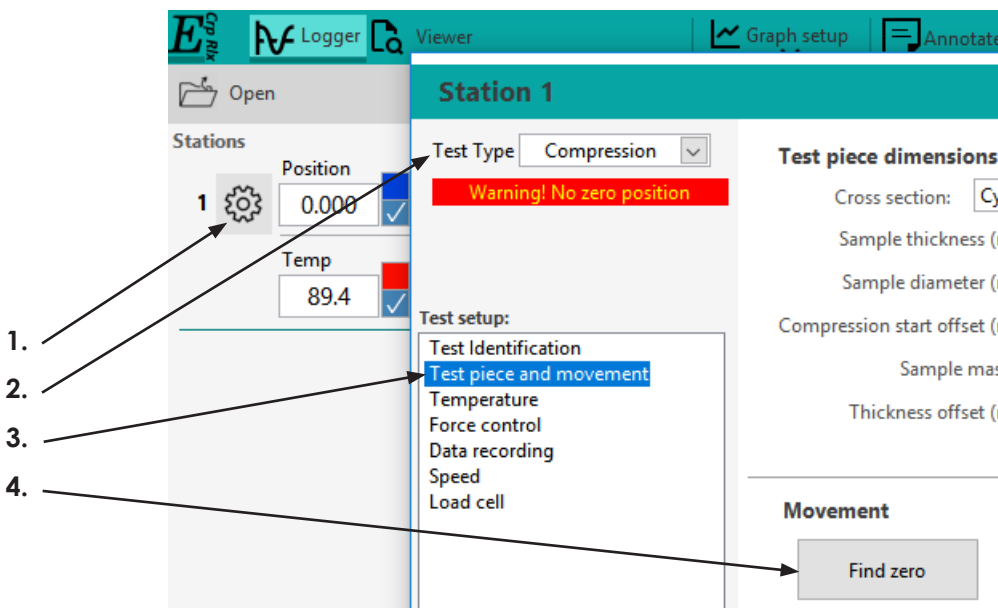

Figure 6.1.2 – Zero force and position in Relaxation Compression mode.
Instructions (The steps correspond to the numbered arrows in Figure 6.1.2)
*Instructions (The steps correspond to the numbered arrows in Figure 6.1.2)*